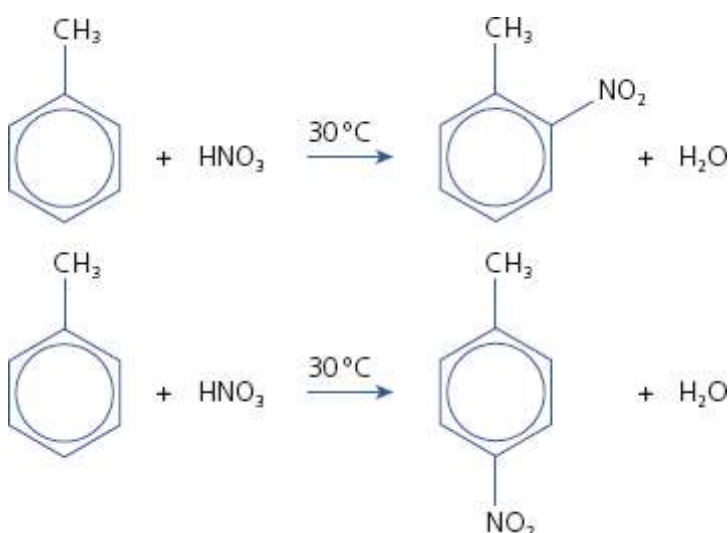

Figure 30.9
- As with the halogens, a mixture of the 2- and 4-nitro substituted arenes (Figure 30.9) is formed.